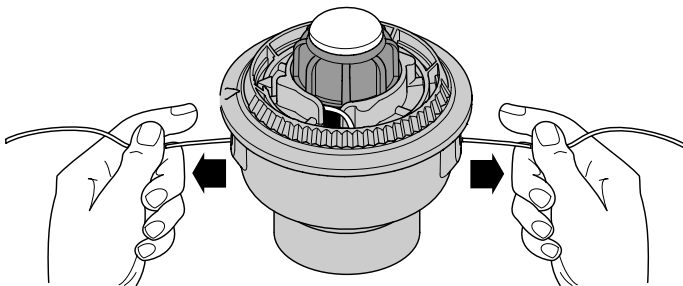

Fig. 21
- If winding the line becomes difficult or the line jams, pull the ends of the line from the spool (Fig. 21). Continue winding the inner reel counterclockwise.
- Hold the inner reel in place and install the bump knob, spring and foam seal. Press down and turn the bump knob clockwise. Grasp the ends and pull firmly to release the line from the holding slots in the inner reel. (Fig. 21).
If the SpeedSpool® does not release line correctly, pull the ends of the line firmly from the spool (Fig. 21). If this does not release line, follow the **Cleaning the SpeedSpool®** instructions.